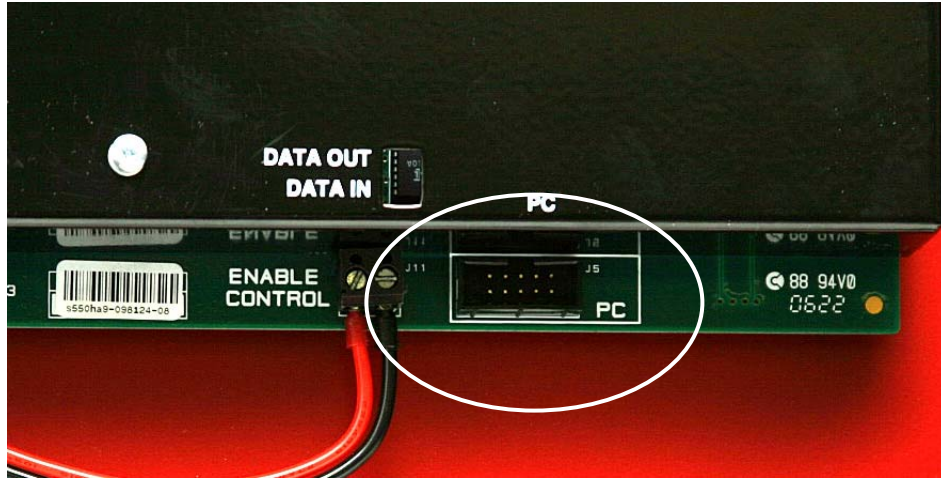

Figure 2.2.3 – J5 PC port on FireNET front display board
- 3) Connect the ribbon cable to the J2 plug on the FN-DAC communicator. Connect the other end of the ribbon cable to the PC port (J5) on the FireNET front display board. See Figure 2.2.3. Use the ribbon cable mounting clips to secure the ribbon cable in the enclosure away from high voltage sources.
front display board. See Figure 2.2.3. Use the ribbon cable mounting clips to secure the ribbon cable in the enclosure away from high voltage sources.